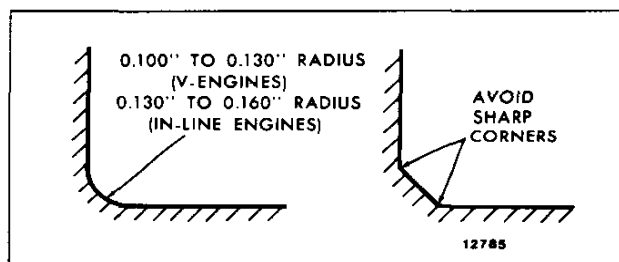

Fig. 10 - Crankshaft Journal Fillets
3. All journal fillets on the In-line crankshafts must have a .130" to .160" radius and on the 6V and 8V crankshafts, a .100" to .130" radius between the crank cheek and the journal and must not have any sharp grind marks (Fig. 10). The fillet must blend smoothly into the journal and the crank cheek and must be free of scratches. The radius may be checked with a fillet gage.